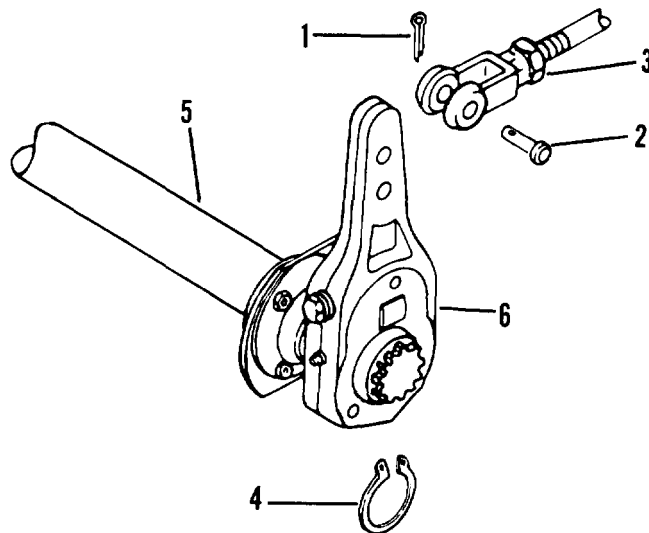

Figure 4-27. Slack adjuster
- (1) Remove cotter pin (1, figure 4-27) and clevis pin (2). Remove clevis (3) from slack adjuster (6).
- (2) Remove retaining ring (4) from end of camshaft (5).
- (3) Using hammer and suitable drift, tap slack adjuster (6) lightly until it comes off camshaft (5).
- (1) Clean splines of camshaft (5, figure 4-27).
- (2) Place slack adjuster (6) in position on camshaft and tap in place using a hammer.
- (3) Install retaining ring (4).
- (4) Install clevis (3), clevis pin (2) and cotter pin (1).
- (5) Adjust slack adjuster (para 4-30).
- (6) Close drain cocks (para. 3-9).